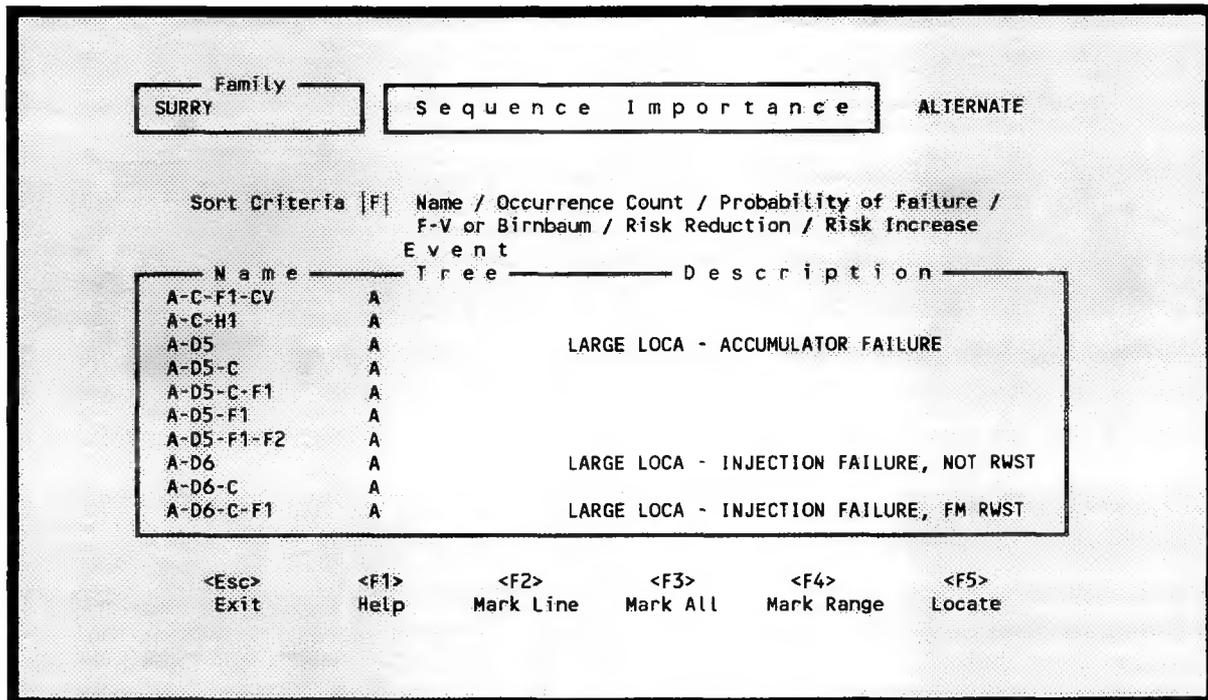

Figure 315. Sort criteria selection screen.
9.7.4.2 Sort Criteria. This option allows you to select the sort order in which to display the Sequence Importance Measures Report. When you invoke this option, Figure 315 will be displayed.